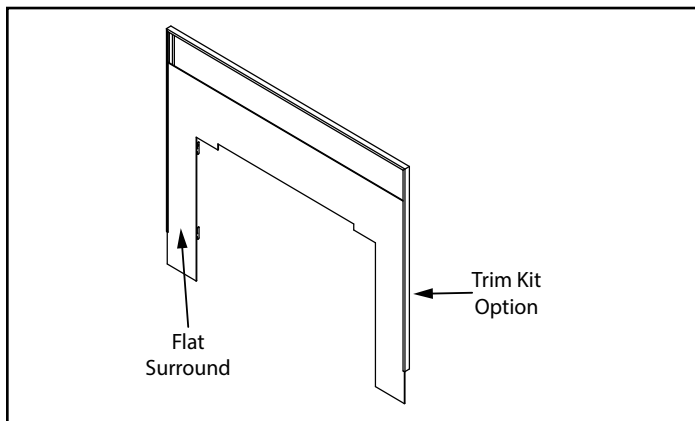

Figure 21.2
4. Slide trim over flat surround as shown in **Figure 21.2**.